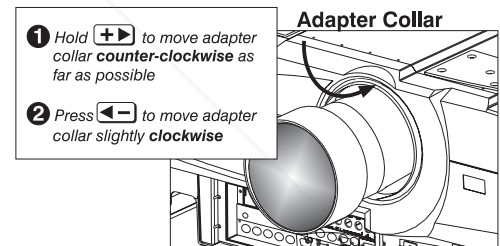

Figure 4.12. Adjust adapter collar using “Zoom” control
- f) **ADJUST THE ADAPTER COLLAR:** Press [Lens] to display the *Lens Control* menu. Then adjust as follows (see Figure 4.12):